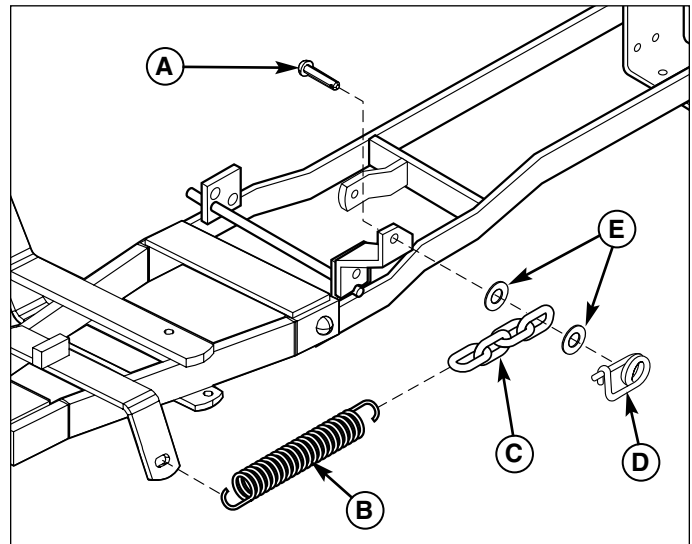

Figure 20. Install Lift Assist Chain
4. Raise the dozer using the lift lever. Support the weight of the blade using wood blocks. Install the lift assist spring as shown in Figure 20.